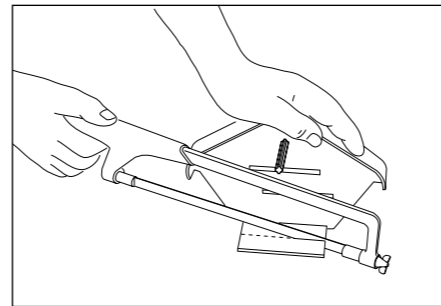

Fig. 16 – Cutting end cap flange
- 15 If required, trim flange of ridge end cap to fit between top course verge units. (Figs. 16 and 17). Top course verge unit is secured to end of top course tiling batten in normal manner.